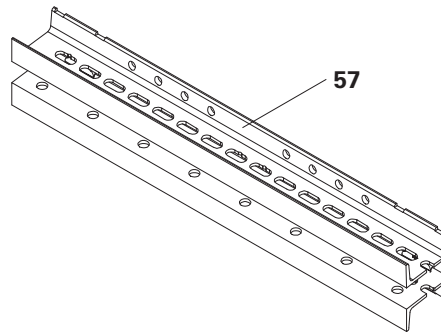

Fig. C2.01b
- Place the Steel Waler SRU U120 L = 0.97 m (57) on a flat assembly area. (Fig. C2.01b)